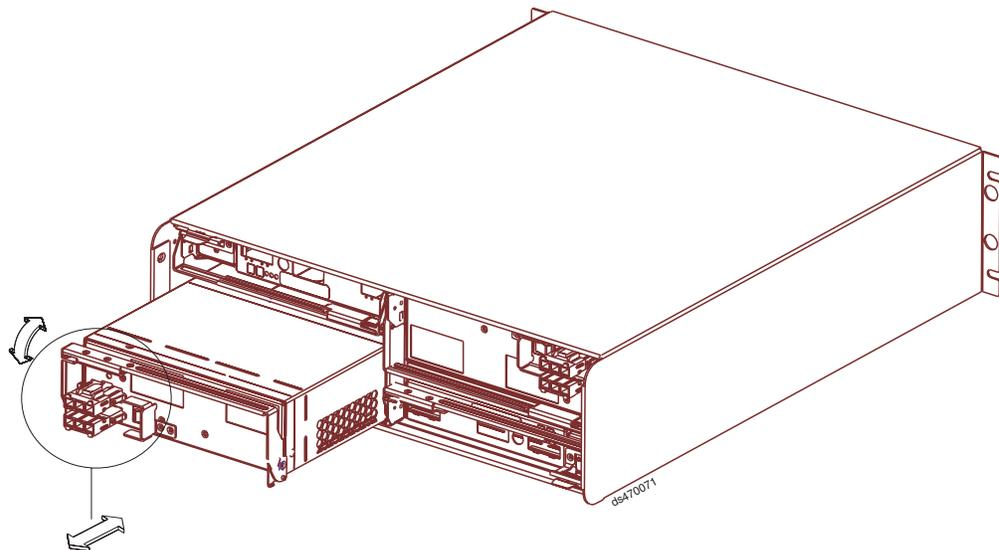

Figure 29. Replacing a DC power supply and fan unit
1. Slide one DC power supply and fan unit into the storage subsystem. Be sure to replace the DC power supply and fan unit so that the lever on each DC power supply and fan unit opens toward the interior of the storage subsystem, as shown in Figure 29. Do not force fit. The DC power supply and fan unit is designed to prevent it from being inserted into the chassis incorrectly.
**Attention:** Be sure that the lever is pulled straight out as you slide the DC power supply and fan unit into the storage subsystem, as shown in Figure 29. The left and right DC power supplies are seated in the DS4700 Express chassis in opposite orientations. If you cannot fully insert the DC power supply and fan unit into the DC power supply and fan unit bay, flip it 180° and reinsert it.